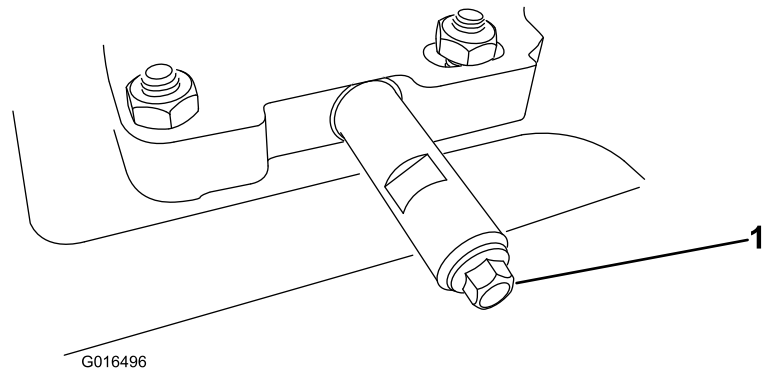

Figure 47
1. Clean the area around the oil drain cap (Figure 47).